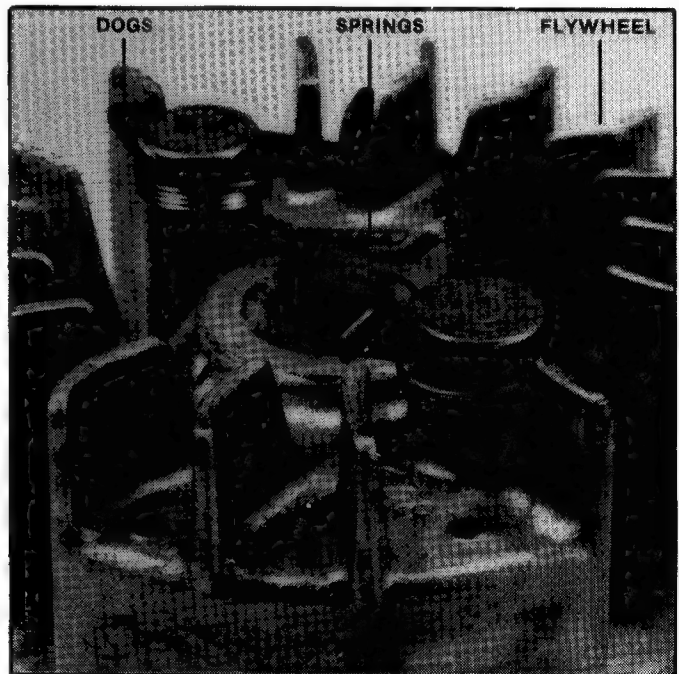

**FIGURE 9.2**
9.2 On top of the flywheel over the area of the magnets is an elongated mark that indicates the location of the crank shaft key. Rotate the flywheel until the mark is opposite the ignition module mounting area. This positions the flywheel counter weight at the module area. Using a soft faced mallet sharply tap the side of the counter weight at a place directly across from the key to loosen the flywheel from the crank shaft. See Figure 9.2.